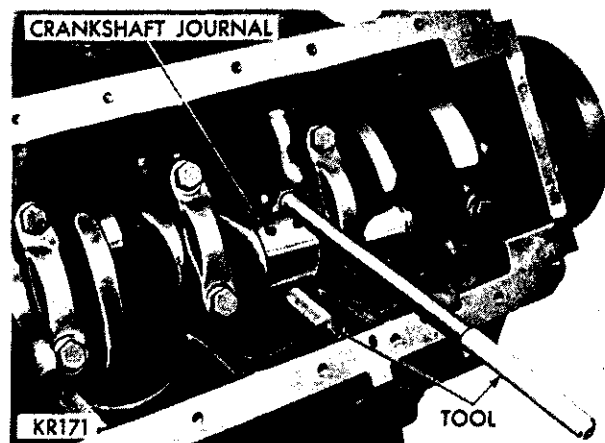

Fig. 45—Installing Connecting Rod
(1) Before installing pistons, rods, and rod assemblies in the bore, be sure that the compression ring gaps are staggered so that neither are in line with oil ring rail gaps.
(2) The oil ring expander ends should be positioned toward the outside of the "V" of the engine. The oil ring rail gaps should be positioned opposite each other and above the piston pin holes.
(3) Immerse piston head and rings in clean engine oil, slide ring compressor, Tool C-385, over the piston and tighten with special wrench (part of Tool C-385). Be sure position of rings does not change during this operation.
(4) Install connecting rod bolt protectors on rod bolts, the long protector should be installed on the numbered side of the connecting rod.
(5) Rotate crankshaft so that the connecting rod journal is on the center of the cylinder bore. Insert rod and piston into cylinder bore and guide rod over the crankshaft journal (Fig. 45).
(6) Tap piston down in cylinder bore, using handle of a hammer. At the same time, guide connecting rod into position on crankpin journal.
(7) The notch or groove on top of piston must be pointing toward front of engine and larger chamfer of connecting rod bore must be installed toward crank pin journal fillet.
(8) Install rod caps, tighten nuts to 45 foot-pounds.